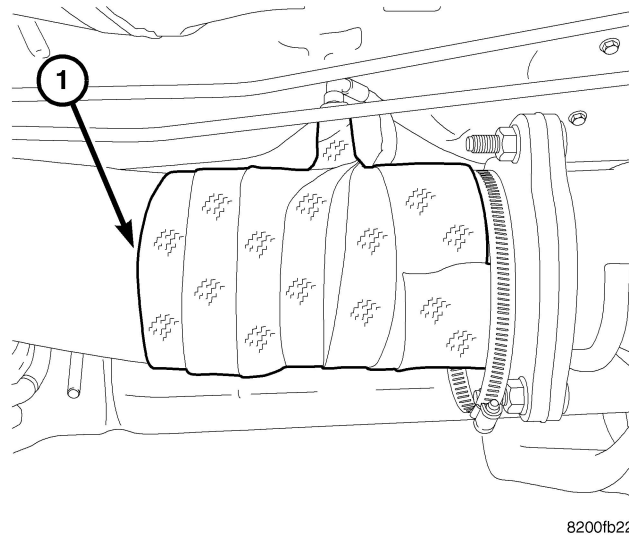

Fig. 3 WRAP COMPLETED
8. Now continue the exhaust pipe wrap in a downstream direction and slalom around sensor. This time, do not wrap the insulation around the body of the O2 sensor. Continue to the wrap until you reach the (DOC)-to-(NAC) flange (Fig. 3).